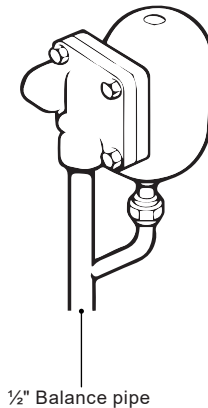

Fig. 2
- The ¾" AE10S high capacity automatic air vent must always be fitted with the inlet at the bottom so that the float mechanism is rising and falling in a vertical plane. From the tapping provided at the low point of the cover, a ½" balance pipe having continuous rise towards the automatic air vent must be fitted and connected into the inlet pipework (as shown in Figure 2) which is essential for satisfactory operation.